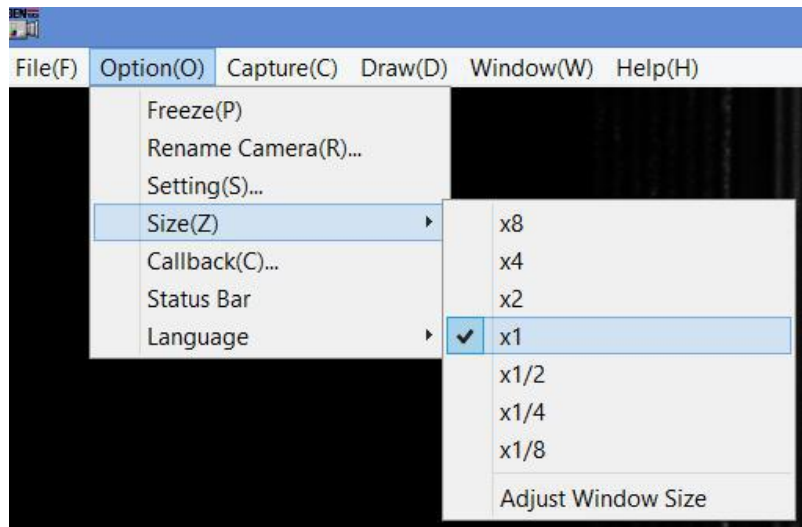

Figure 39 StcamSware GUI
38. Go to StCamSware, go to Option -> Size, Select "x 1" as below Figure 39.